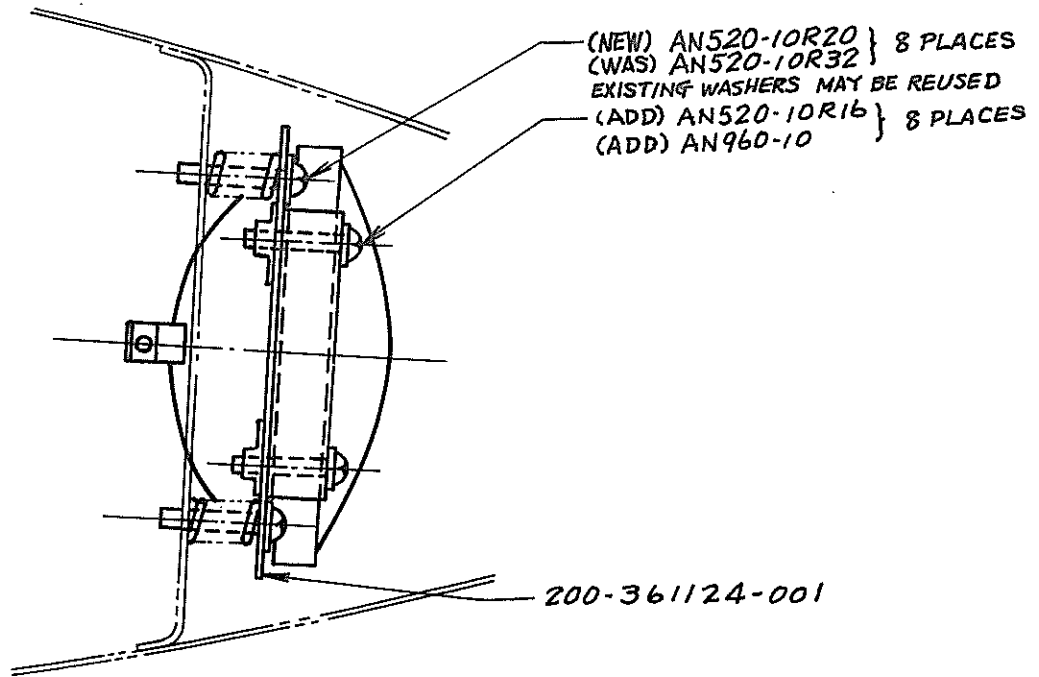
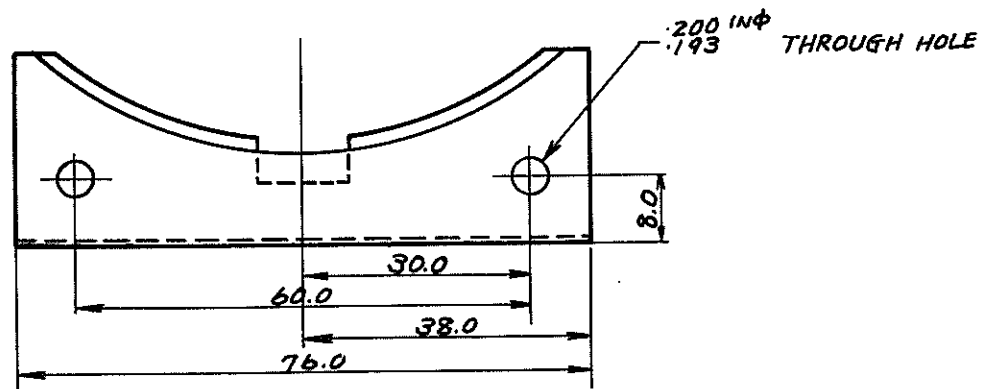

FIG. 1
FIG. 3
- (1) Remove windshield for landing and taxi lights installed at the left wing tip.
- (2) Back off screws and remove four channels attaching the two lights. Then pull forward the lights.
- (3) Separate harness from the lights.
- (4) Install two plates, 200-361124-001, in positions as illustrated in figure 1.
- (5) Adjust attaching angle of the above two plates in accordance with Service Manual, para. 10-9-1, "Angle Adjustment for #102 and subsequent."
- (6) Rework four attaching channel, 200-361123-003, to dimensions shown in figure 3.
- (7) Connect harness to the landing light and to the taxi light. Install the reworked channels to the plates with eight screws, AN520-10R16, and eight washers, AN960-10. See figure 1.
- (8) Reinstall the removed windshield in position.